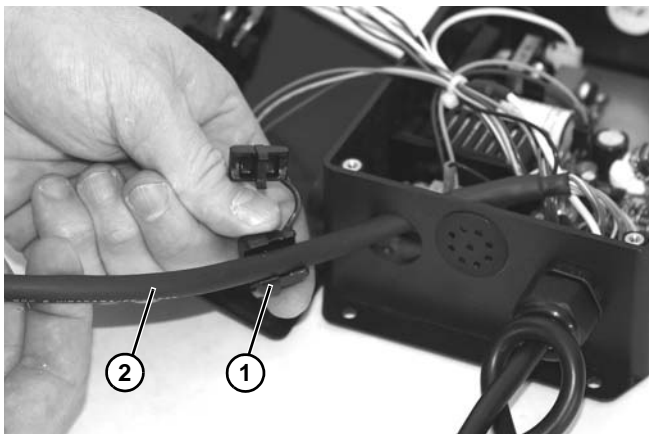

Figure 28
4. Remove cord retainer (Figure 28, item 1) from cord (Figure 28, item 2).